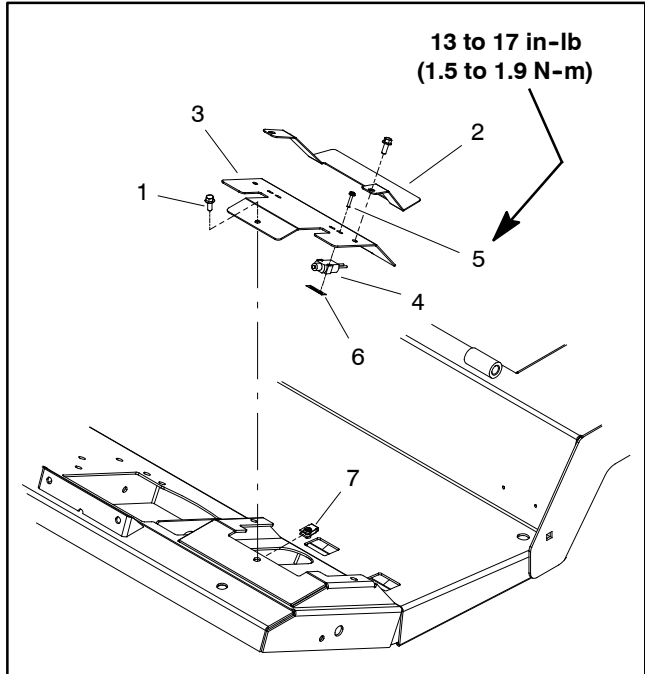

Figure 45
The two (2) switches used for the service brakes are normally open switches that are located under the footrest panel (Fig. 45). The service brake switches provide inputs for the TEC controller. When a brake pedal is not depressed, the brake pedal assembly contacts the switch plunger to close the switch. When a brake is applied, the brake pedal assembly moves away from the switch plunger, allowing the switch plunger to extend and the switch to open.
3. Remove brake cover and switch plate on operator platform to access service brake switches (Fig. 45).